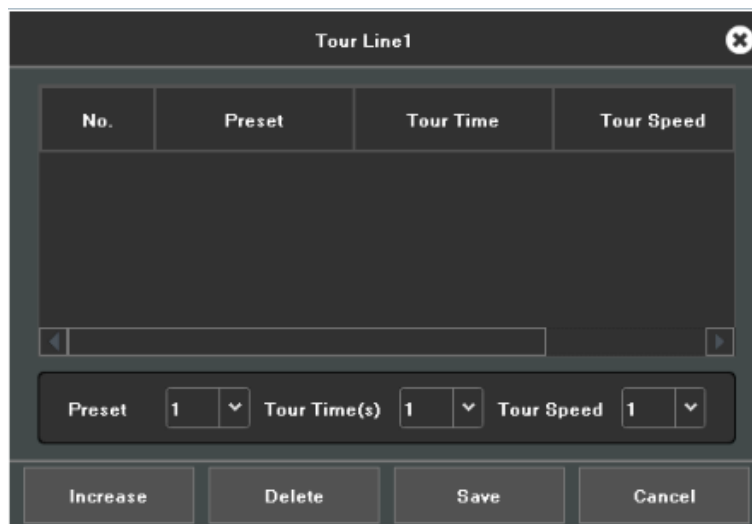

Figure5.3 Tour Line
2. Click the  button to add key points for cruise, as shown in Figure 5.3.